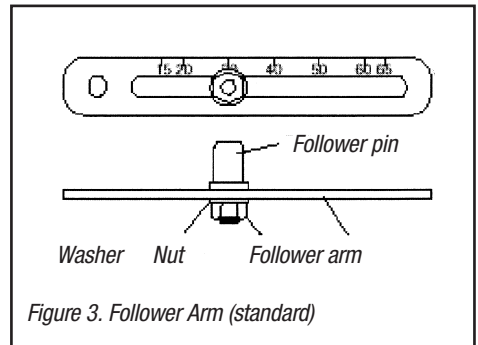

Figure 3. Follower Arm (standard)
3. Loosen the follower pin and shift it along the follower arm until the control marking on the feedback gear (Figure 3) is horizontal (points to the center of the feedback potentiometer). Fasten the follower pin in this position.